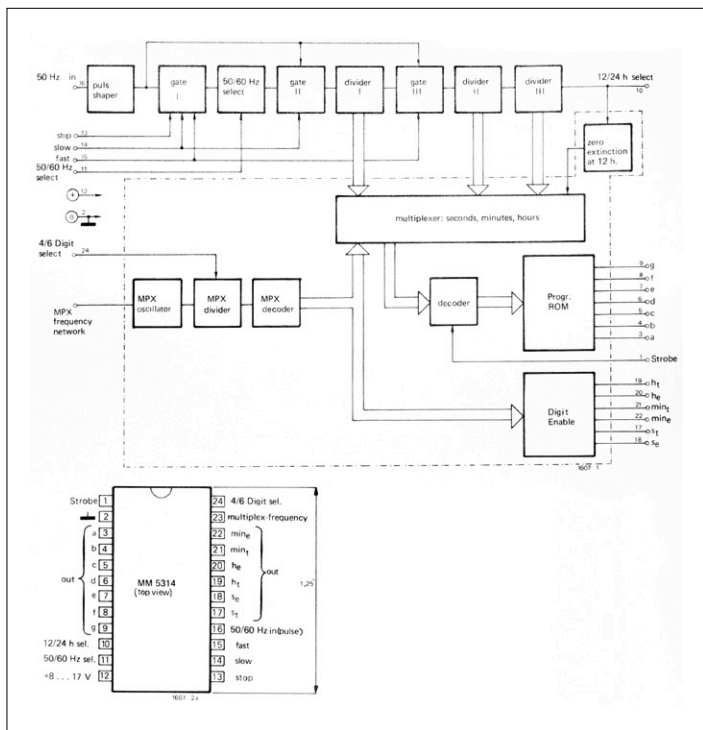

Figure 1. Elektor’s 1974 rendering of the architecture and pinout of a classic chip: National Semiconductor’s type MM5314 clock IC.
That MM5314(N) is a product from National Semiconductor, which curiously are nowhere mentioned in the 1974 article, while the IC’s block diagram and pinout appear to be redrawn by Elektor (Figure 1) rather than copied from the NS databooks I am sure the Elektor designers had at that time (blue! they were). A no-fake MM5314N is both scarce and *expensive* today (try EBay) making it a veritable collector’s item. It derives its clock accuracy from the 50-Hz or 60-Hz (selectable) AC powerline frequency, which seems a good laugh with all that